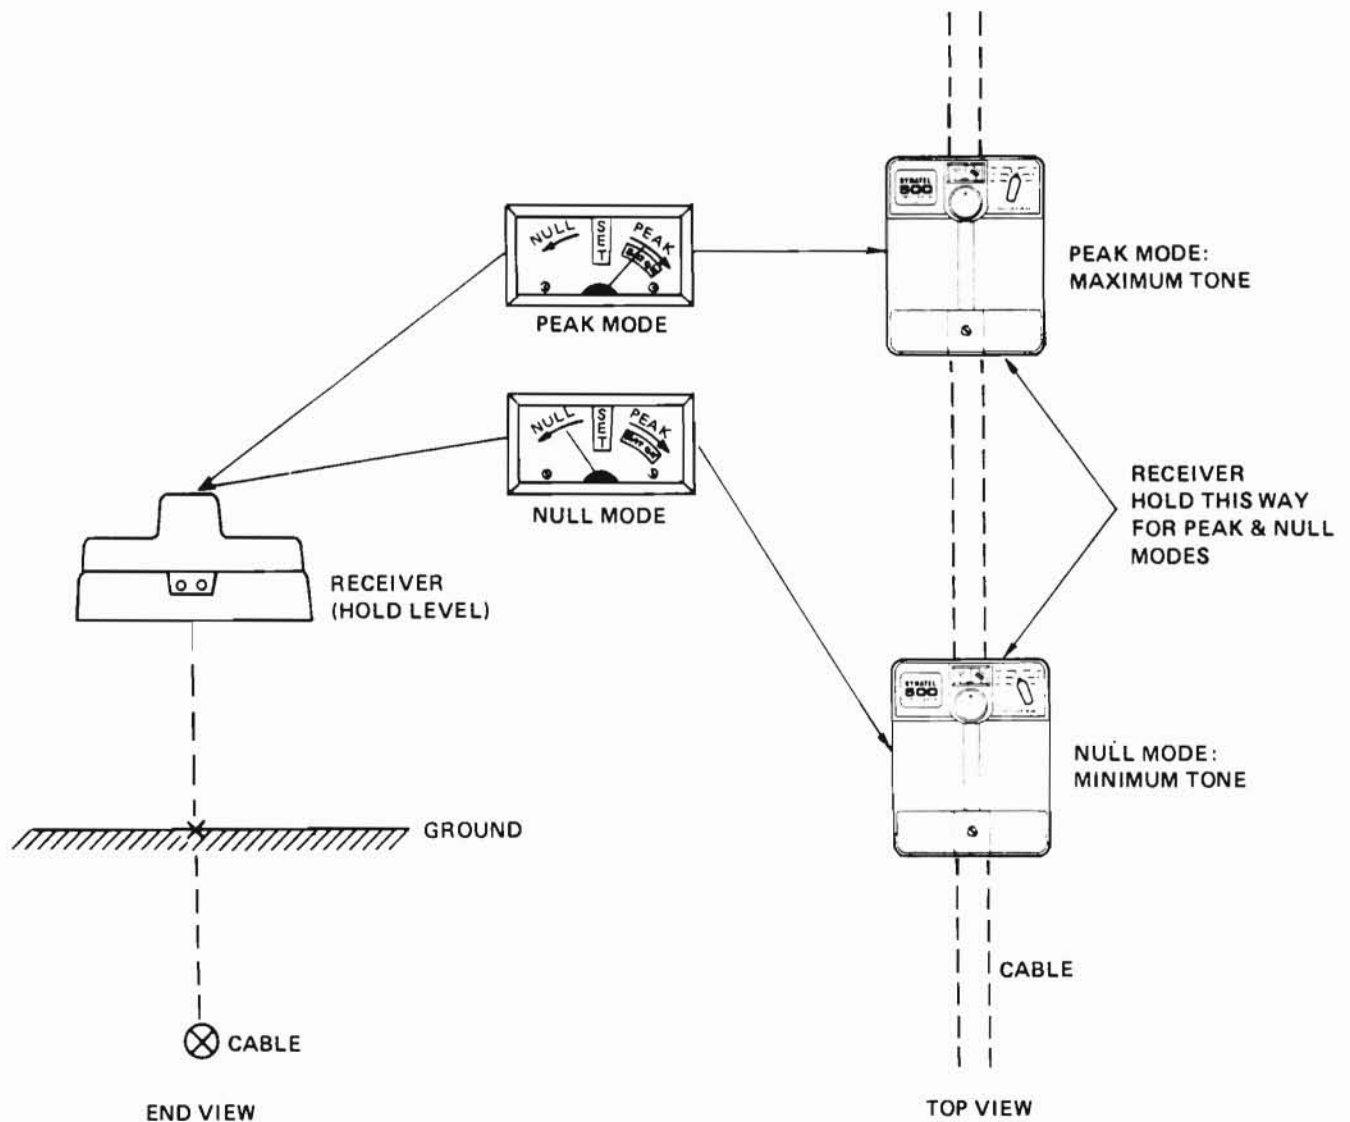

Fig. 7 - Cable Location for Peak & Null Modes.
*Note:* When using the receiver in PEAK mode, be sure that the handle is PARALLEL to the cable run. If you turn the handle so that it is ACROSS the cable run, the receiver output will decrease, and it won't be as accurate. See Fig. 7.